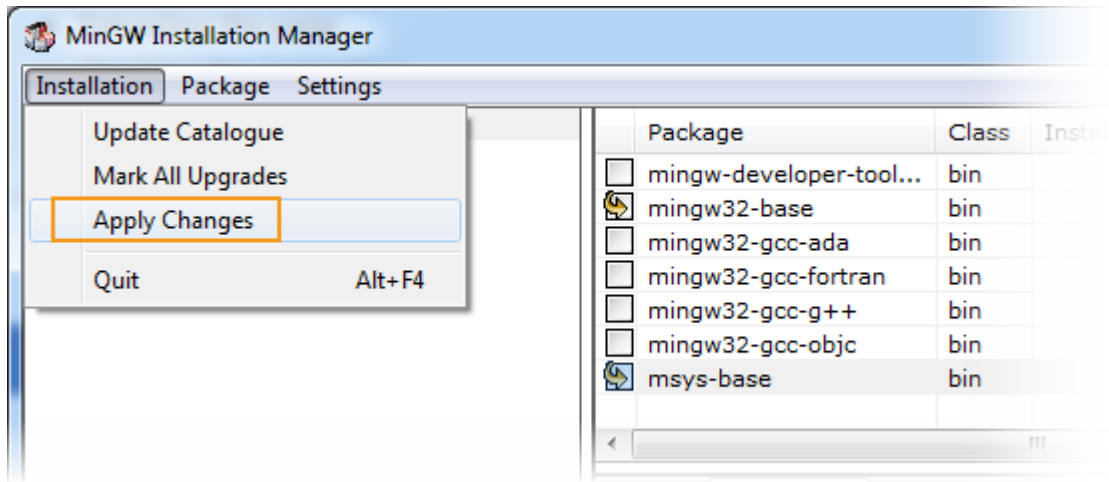

Figure 19. A basic MinGW installation
- 6) Click **Apply Changes** from the **Installation** menu (see Figure 19).